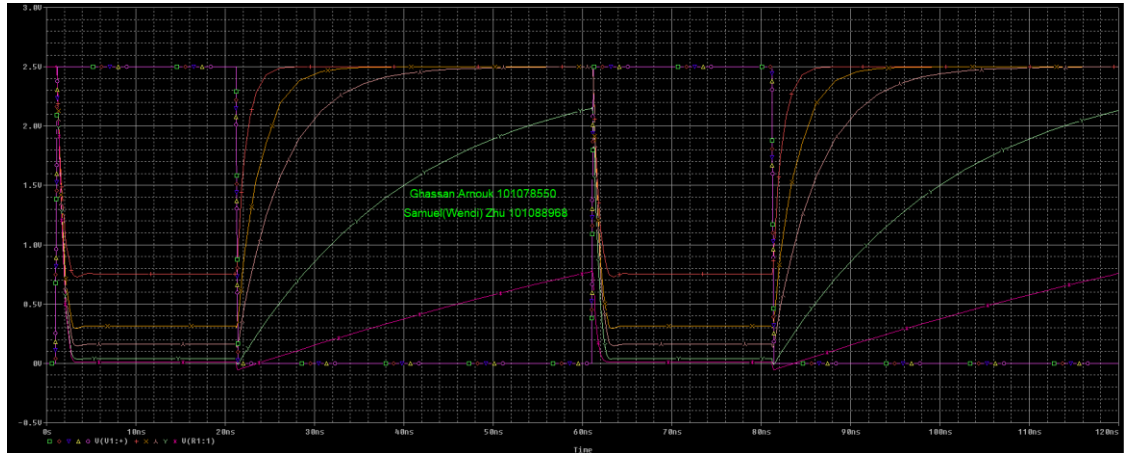

Figure 1 - Plot of  $V_{out}$  Vs.  $R = 10\text{ k}\Omega$ ,  $25\text{ k}\Omega$ ,  $50\text{ k}\Omega$ ,  $200\text{ k}\Omega$ ,  $1000\text{ k}\Omega$ .
a) Figure 1 below shows the plot of  $V_{out}$  Vs. R for different values of R.